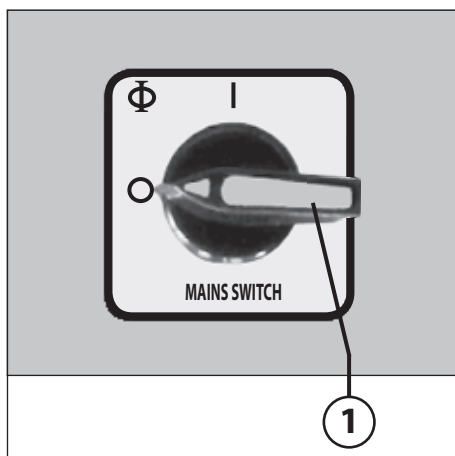

fig. 1
1. Move the main switch (1) (fig. 1) to position „1“.
**OPERATING FUNCTIONS (Figs. 1, 2 and 4):**
- 1 = Mains switch (Emergency-stop) (fig. 1)**